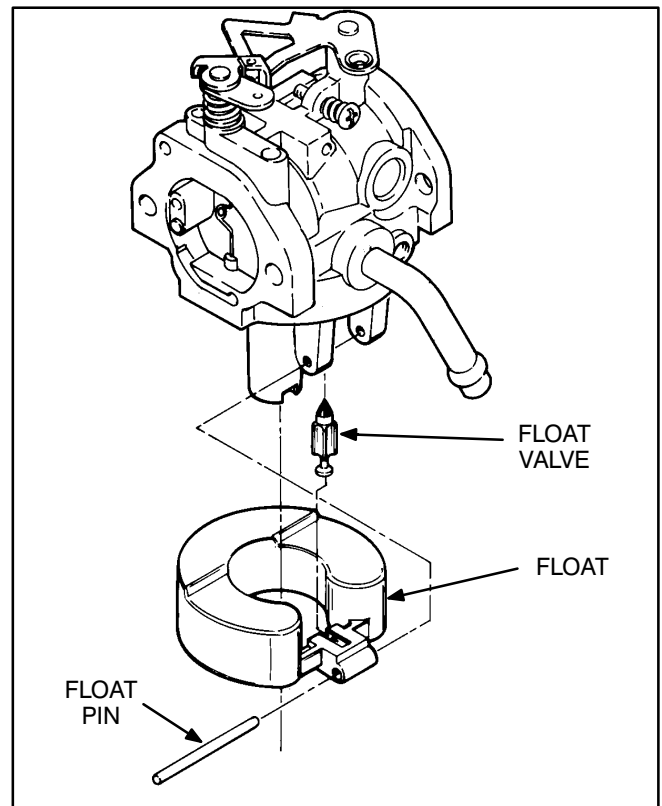

FIGURE 8-14. FLOAT INSTALLATION
2. Screw in the main nozzle. Install the float valve into the slot in the float and install the float with the float pin (Figure 8-14). Make sure that the float moves freely without binding.